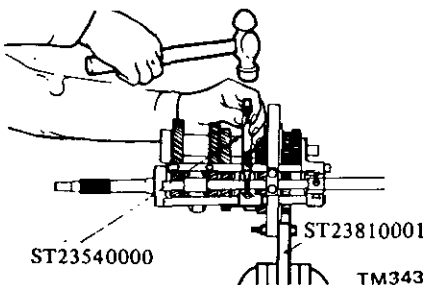

Fig. MT-10 Drive out retaining pins
1. Drive out retaining pins from each fork rod with Fork Rod Pin Punch ST23540000. See Figure MT-10.